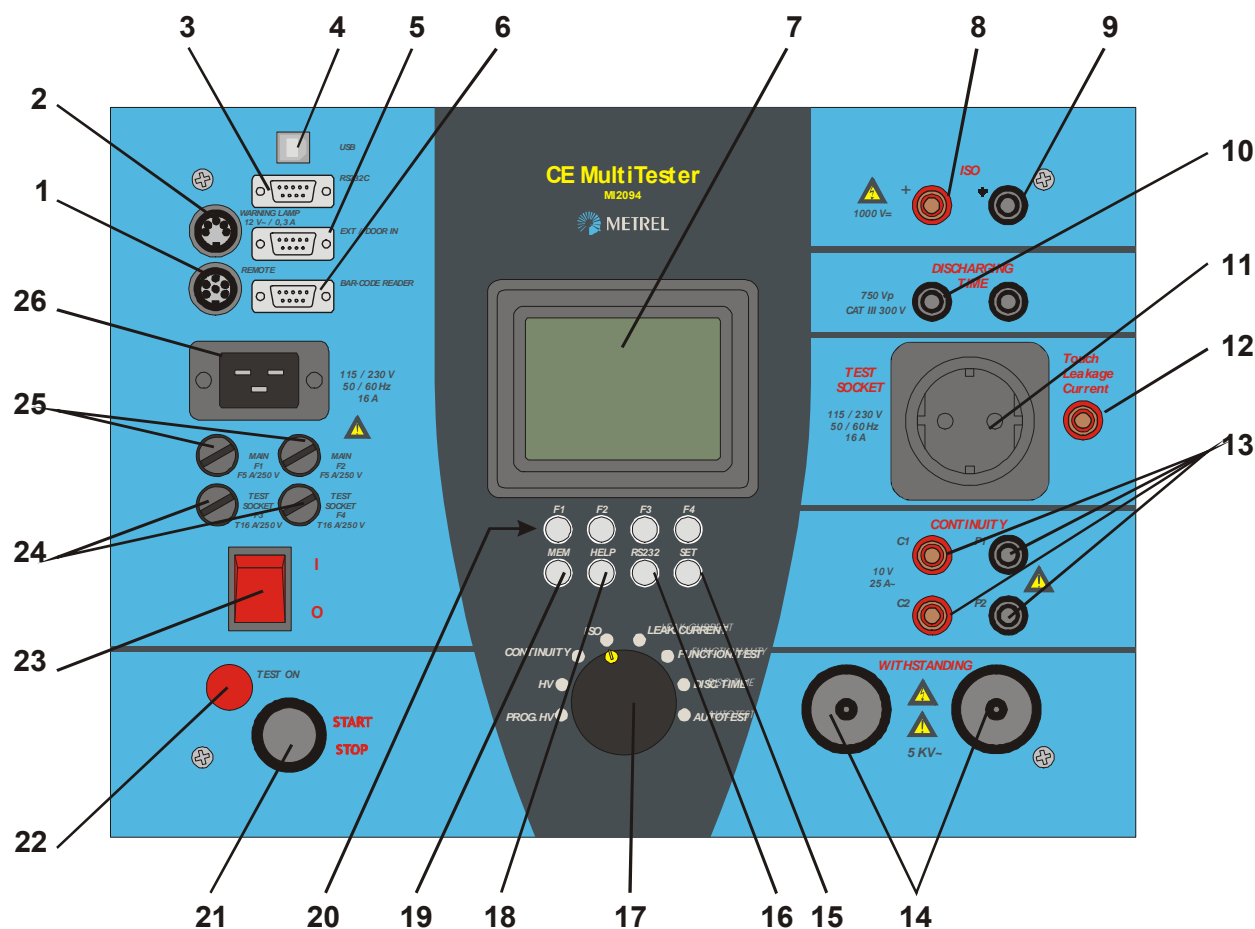

Fig.1. Front panel layout
<p>Withstanding section</p> 	<p>Dangerous voltage may be present. Switch off the instrument immediately if the red warning lamp (fig. 1., pos. 12) does not light after switching on HV generator, and service the instrument. Always handle as the test leads are energized.</p>
<p>Function test section</p> 	<p>Dangerous voltage is present on the TEST SOCKET (fig.1, pos.10) after pressing the START/STOP push button.</p>